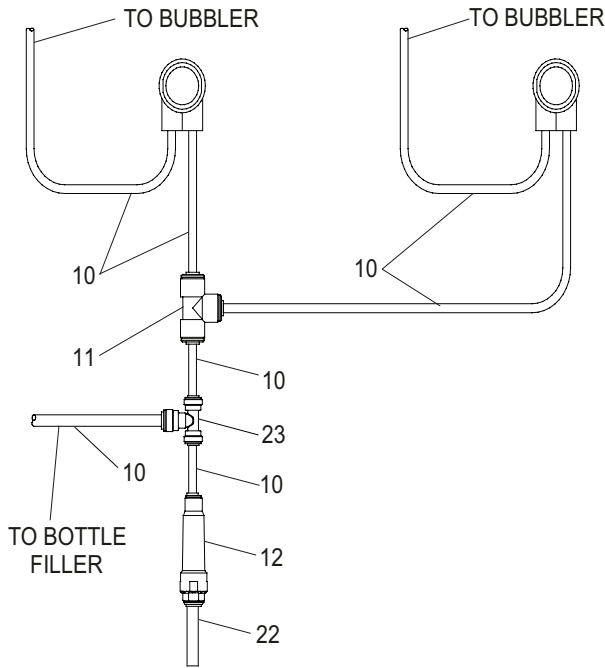

Figure 4 - Tube Routing Non - Filtered
3. **For Non-filtered versions** - Install 1/4 X 1/4 X 3/8" tee, copper tubing and strainer per (Fig. 4).